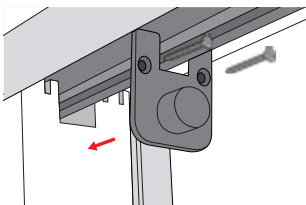

Figure 30: Top rail stop plate
Step 7 - Line up the rear side stop plate (top) and screw the plate in place as shown in Figure 30.